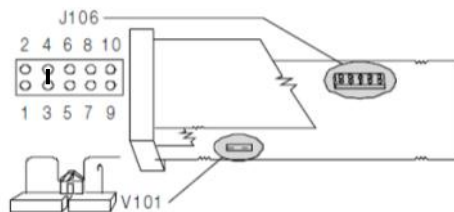

Figure 1.
- Open V101 switch for Basic/advanced Configurations (Figure 1)
- Close V101 switch after Basic/Advanced Configuration (Figure 1)